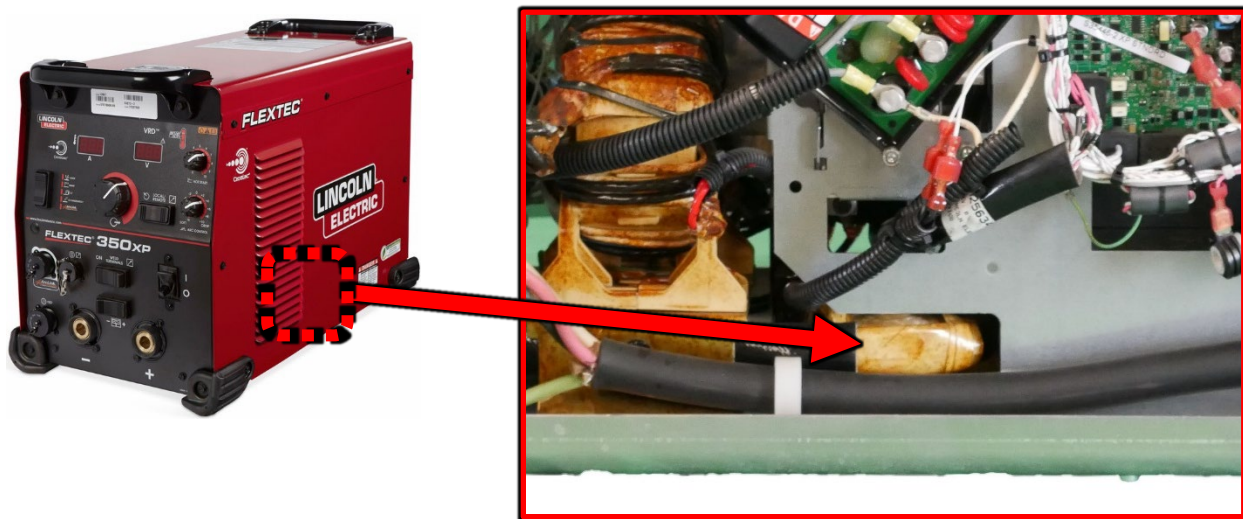

Figure F.1
1. For location of the Choke refer to Figure F.1.